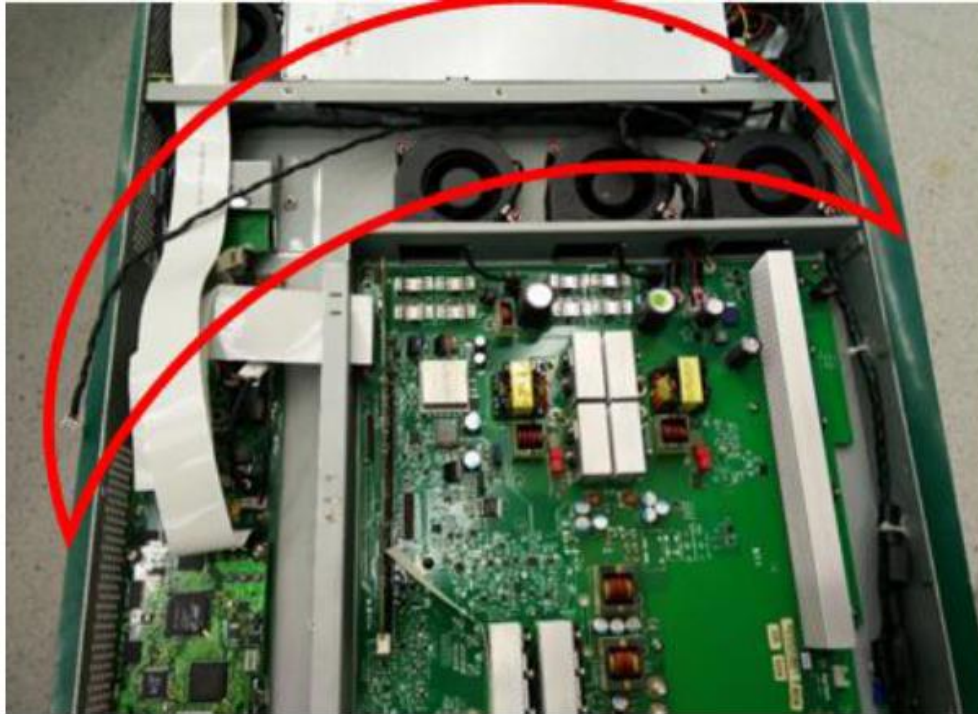

Figure 6
6. Pull out AC line cable from front chassis hole Figure 6.